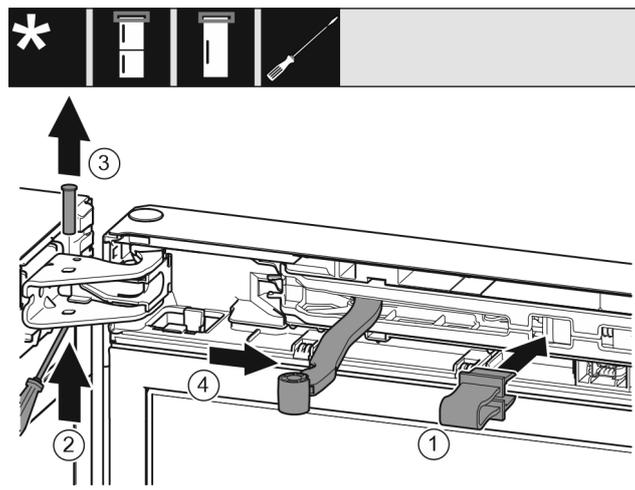

Fig. 10
- ▶ Engage the locking device in the opening. Fig. 10 (1)
- ▶ Push out the bolt with a screwdriver. Fig. 10 (2)
- ▶ Remove the bolt upwards. Fig. 10 (3)
- ▶ Turn the hinge in the direction of the door. Fig. 10 (4)